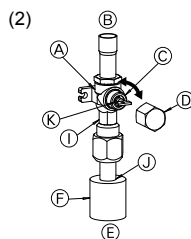

Fig. 4-7
- (2) Gas side of stop valve (Fig. 4-7)